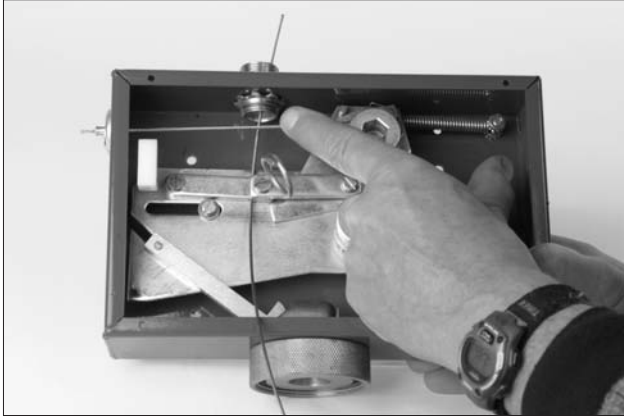

Figure 4-56.
1. Starting at the PYRO-CHEM control head, connect the conduit connector using the supplied nut. Use only PYRO-CHEM conduit fittings, Part No. 55813. See **Figure 4-56.**